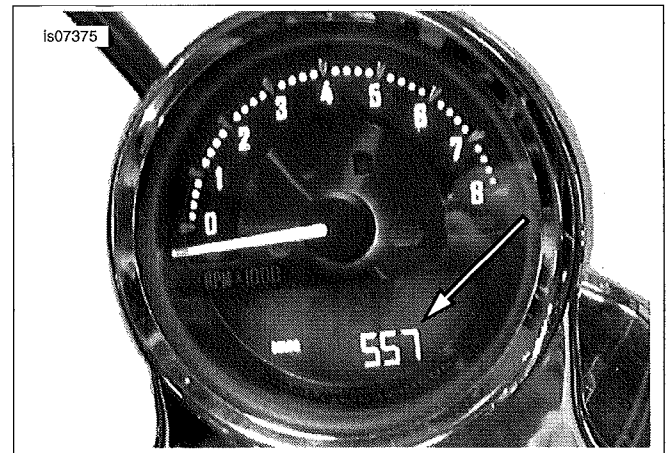

Figure 7. Select Display Color
3. See Figure 7. Turn the ignition switch quickly to OFF and then back to ACCY. The gauge will display the color number of the current color.